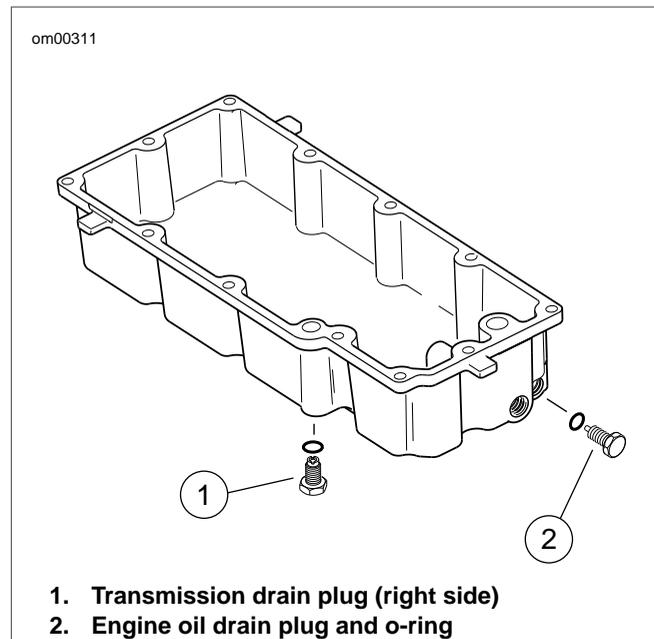

Figure 1-4. Oil Pan
- See Figure 1-4. Locate oil drain plug at front left side of the oil pan. Remove the oil drain plug. Do not remove Allen plug. Allow oil to drain completely.